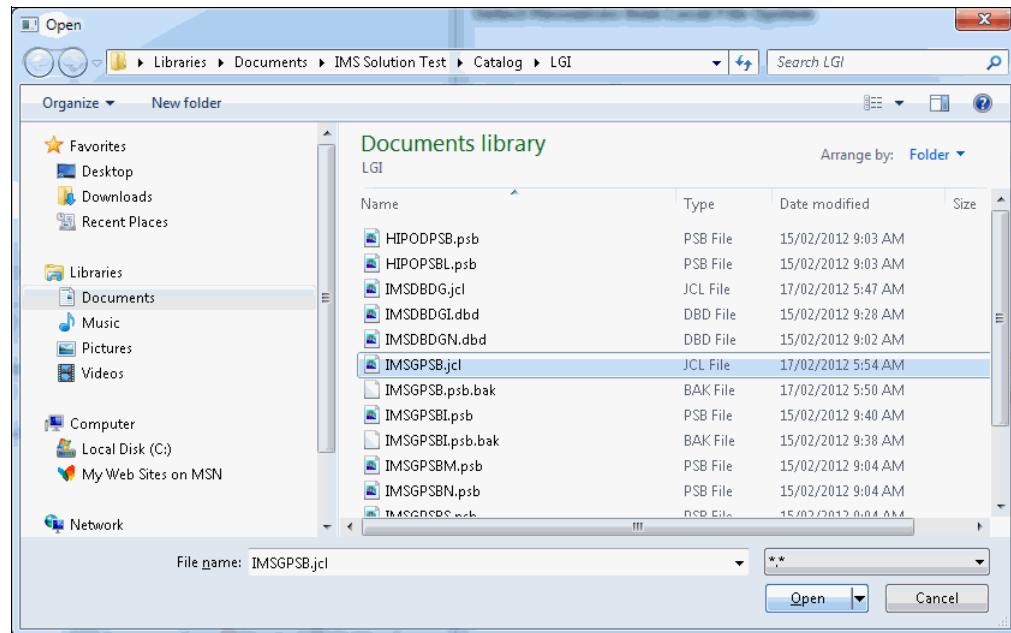

Figure 8-26 Selecting the PSB source to be imported
8. Select the file that contains the PSBs that you want to import, and click **Open**, as shown in Figure 8-26.